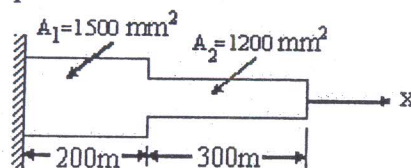

Figure.7
b) Consider axial vibration of the steel bar shown in Figure.7.